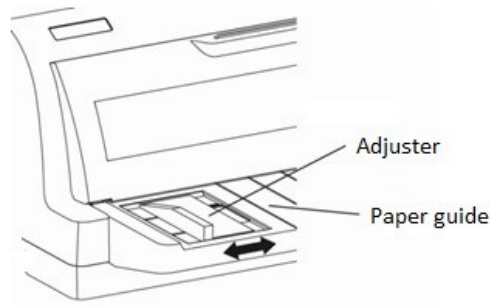

Fig. 2-12
- 2) There is a adjuster on the left of the paper guide which is for feeding location. As shown in Fig.2-12, you can move the adjuster left and right. The moving part of the regulator has a scale that you can use to determine the paper feeding position.